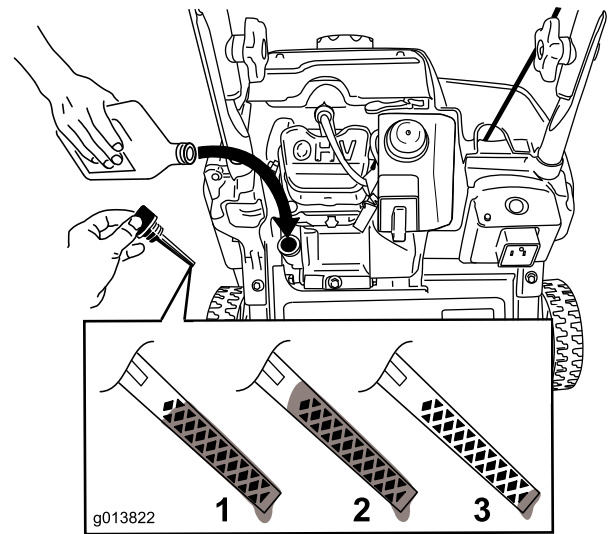

Figure 7
2. Clean around the oil-fill cap (Figure 7).
Note: To determine the proper oil level on the dipstick, refer to Figure 7.
Note: Fill the engine crankcase with oil until the dipstick indicates that the engine oil level is correct as shown in Figure 7. If you overfill the engine with oil, remove the excess oil.